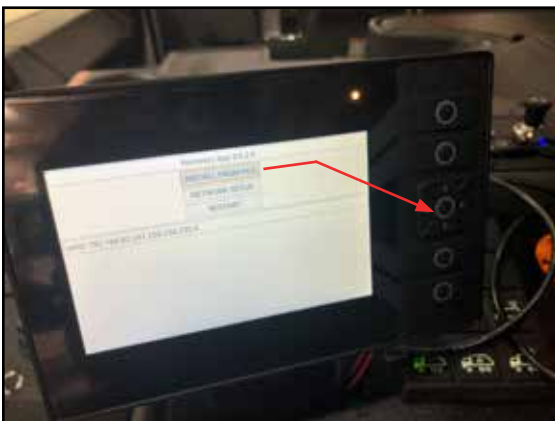

Figure 15
6. Press the "OK" button to select "INSTALL FROM FILE". The screen with the files will populate. See Figure 15.